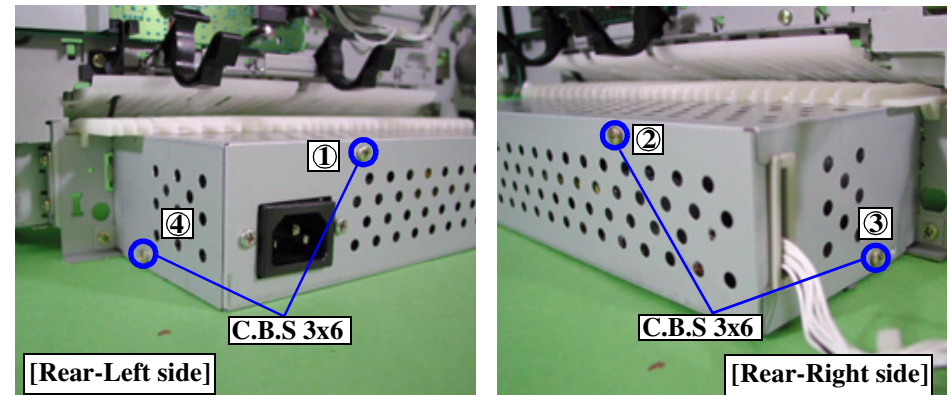

Figure 4-26. Screws Securing the P/S Lower Shield Unit
- When installing the P/S Lower Plate Unit, the screws should be installed in the order shown in the illustration. (Figure 4-26)